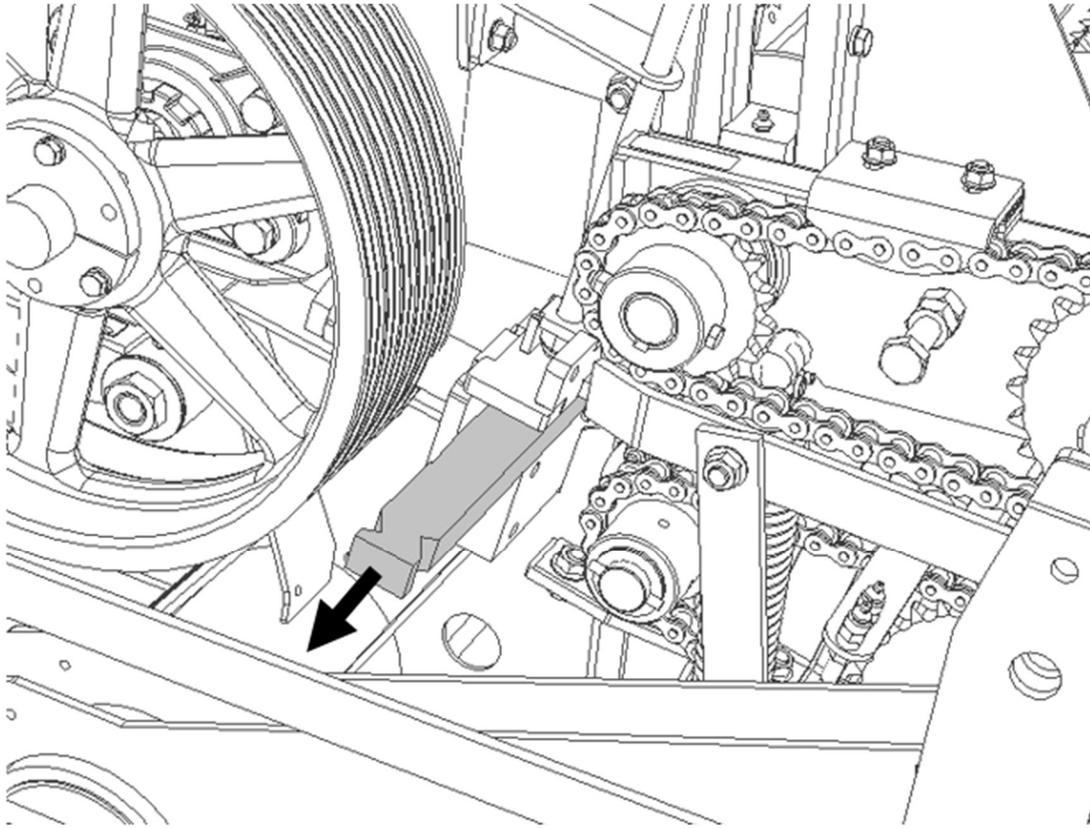

Figure 110 Removing the shear bar
3. Remove the shear bar adjuster module (item 8, see note above for serial# 8XXXXX1.) by removing bolts (item 7).
4. Remove the shear bar (Figure 110 Removing the shear bar), clean it, and verify the condition of the cutting edge.